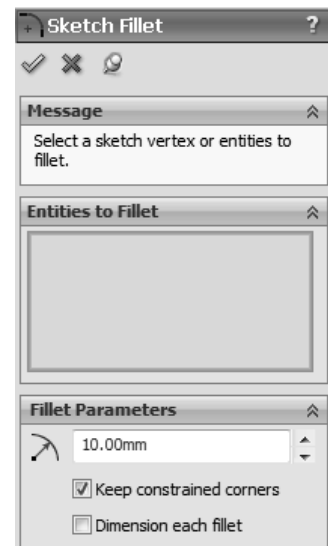

Figure 3-18 The **Sketch Fillet PropertyManager**
- Choose the **Sketch Fillet** tool from the **Sketch CommandManager**; the **Sketch Fillet PropertyManager** is displayed, as shown in Figure 3-18. Also, you are prompted to select the sketched entities or sketched vertex to be filleted.